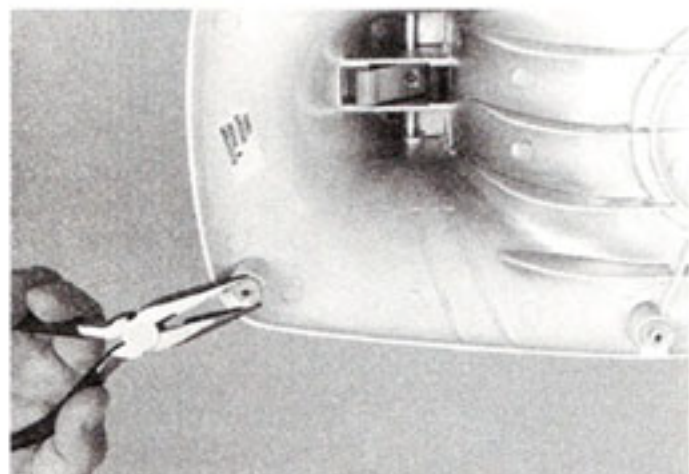

Fig. 73
- B. Check the rubber feet. If they are worn or softened from grease, replace them. Twist the old feet out (Fig. 73). Clean the holes with solvent and dry them with clean cloth. Moisten the part of the foot that will go into the hole and twist the new feet in or tap with mallet. Be sure all feet are in the same amount.